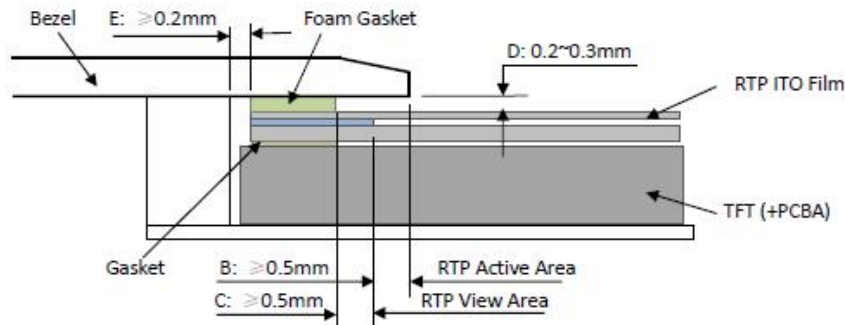

Figure 4
(Figure 4)
It is suggested to protect those areas with gasket (between the bezel and RTP). The suggested figures are $B\geq 0.50\text{mm}$; $C\geq 0.50\text{mm}$. (Figure 4)
- The bezel side wall should keep space $E = 0.2 \sim 0.3\text{mm}$ from the RTP. (Figure 4)